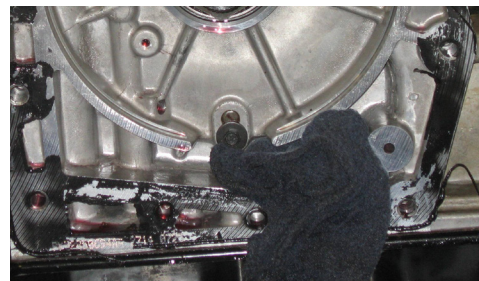

Figure 5: Rag Placement
11. Insert a CLEAN shop rag into the back of the transmission as shown in the picture below to prevent contaminants from entering your transmission. (See Figure 5)